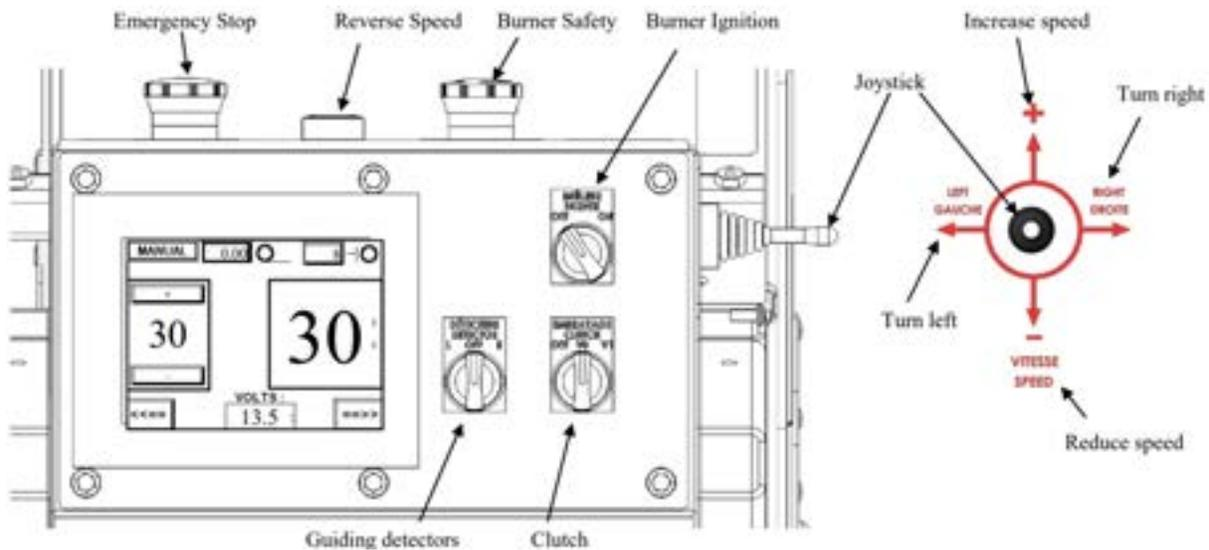

Figure 7
b. Burner Safety Push Button (Fig.7)
c. Speed (Fig. 7)